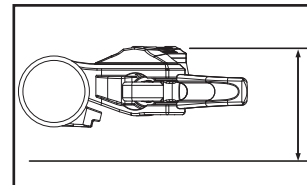

Fig 8a
- Place the bike in a stand. Use a 4 mm hex wrench to loosen the lever clamp and position lever body so that it is parallel to the ground. (Fig 8a)